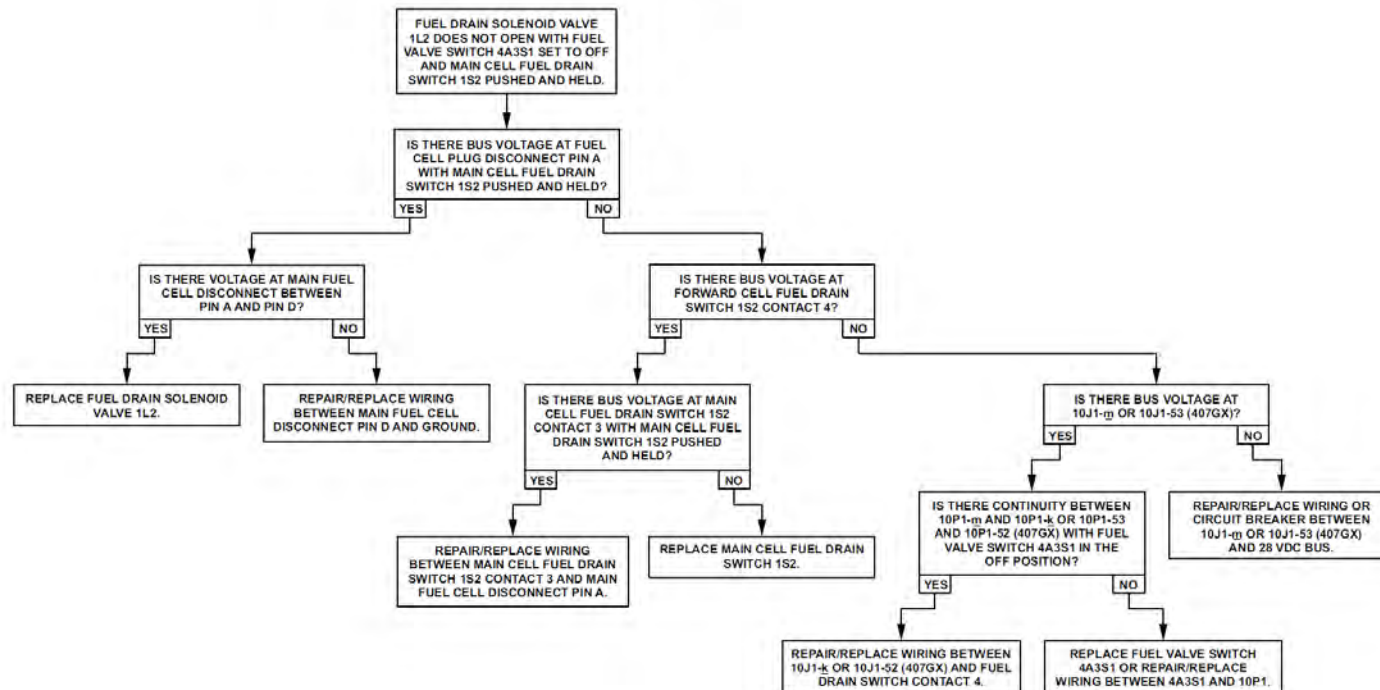

Figure 96-108: Fuel Shutoff Valve Electrical System, Fuel Cells Drain Valve Circuit – Trouble No. 6
- If the fuel drain solenoid valve (1L2) does not open, refer to Trouble No. 6. (Figure 96-108).